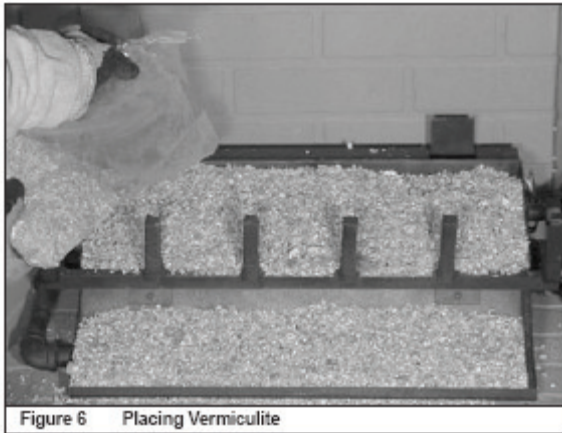

Figure 6 Placing Vermiculite
- Pour vermiculite over the sand in the pans until they are full. See Figure 6.
Pour vermiculite into each burner pan to the point where each pan is completely full. Level the vermiculite from right to left to ensure an even flame pattern. See Figure 6.